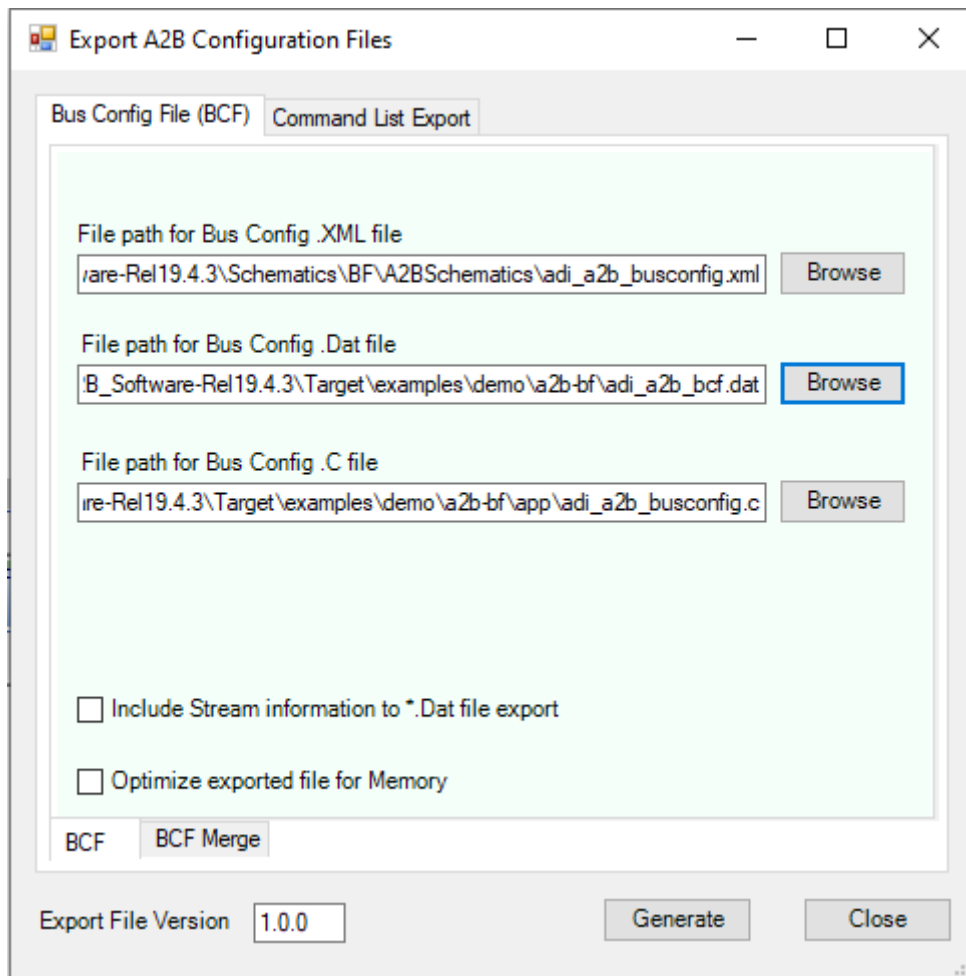

Figure 39: System Configuration File export window
4. A dialog box appears as shown in Figure 39. Export required configuration file using appropriate tab.